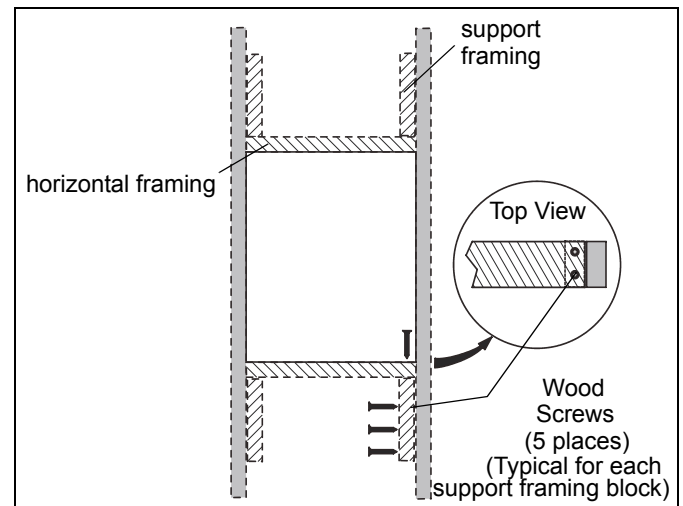

Figure 2
2. Using three #10 x 2-1/2" countersunk wood screws (not provided), attach support framing to the studs (See Figure 2)
4. Attach horizontal framing to each support block with two #10 x 2-1/2" countersunk wood screws (not provided). (See Figure 2)